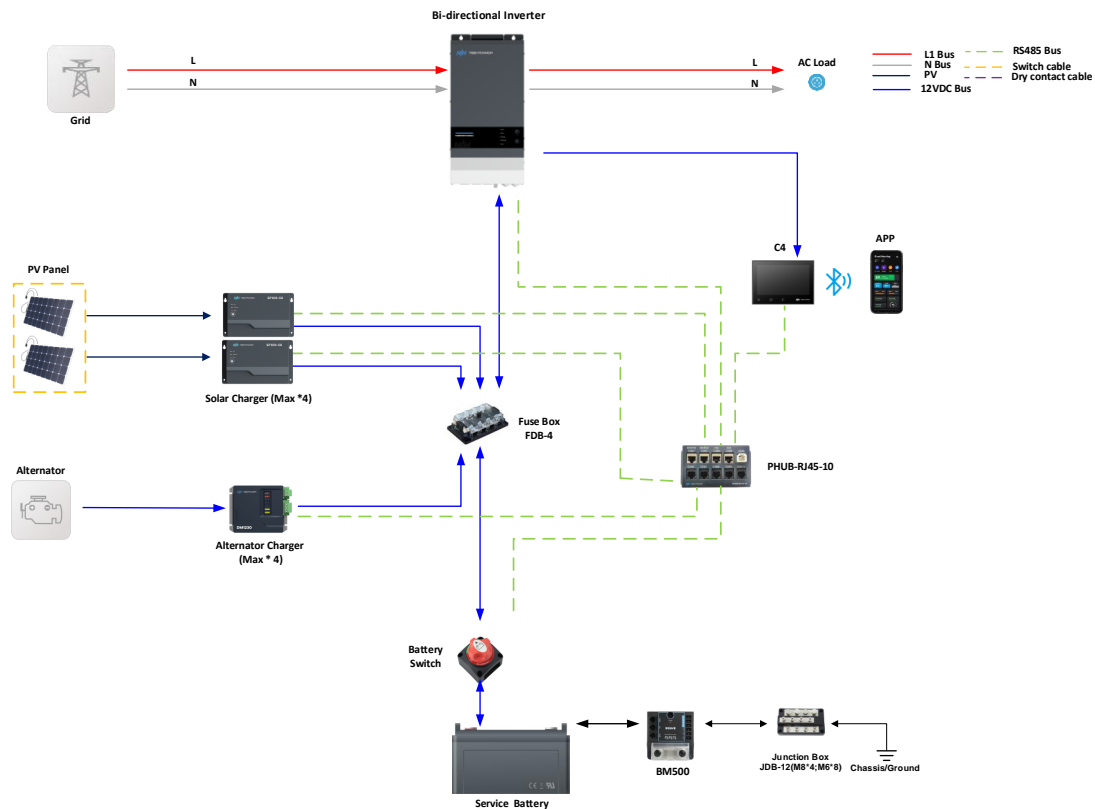

fig 2-2 Single Inverter 02 Mode
2. The wiring diagram for Single Inverter 02 mode is shown in Figure 2.2, and the system configuration list is shown in Table 2.2.